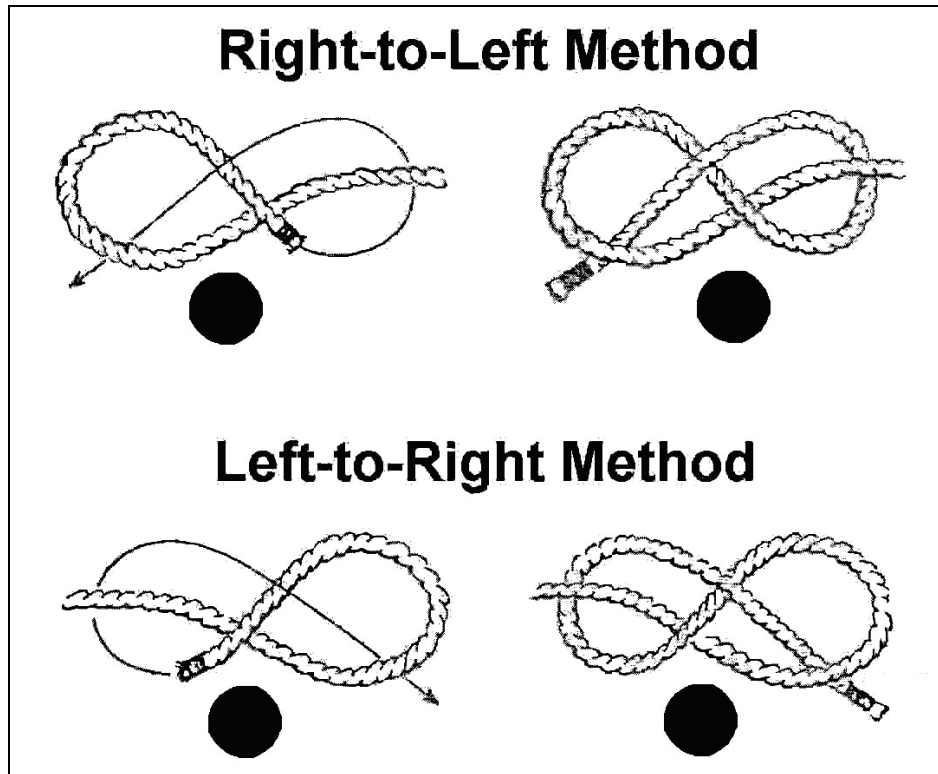

Figure 3-74. Figure Eight Knot
2. Tie a figure eight knot (see Figure 3-74).